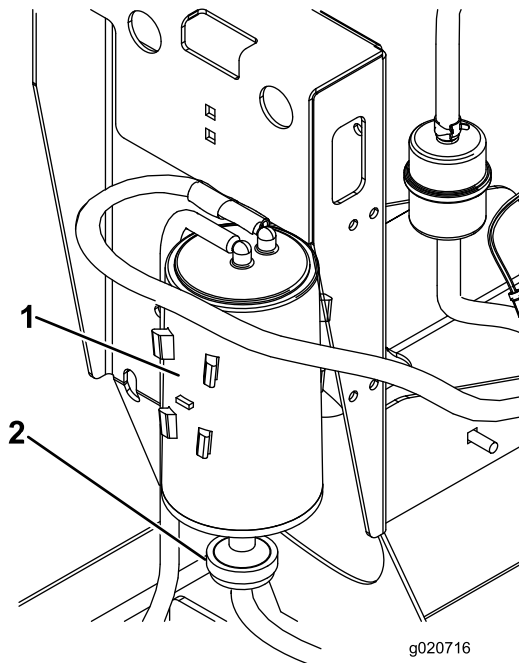

Figure 16
2. Disconnect the hose from the carbon canister air filter (Figure 16).
3. Remove and discard the carbon canister air filter (Figure 16).